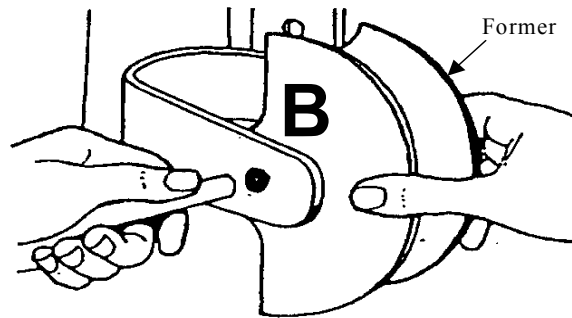

Figure 8.
- Place the semi-circular former 'B' (to suit the size of conduit to be bent) in position and secure the centre-pin, see Figure 8.